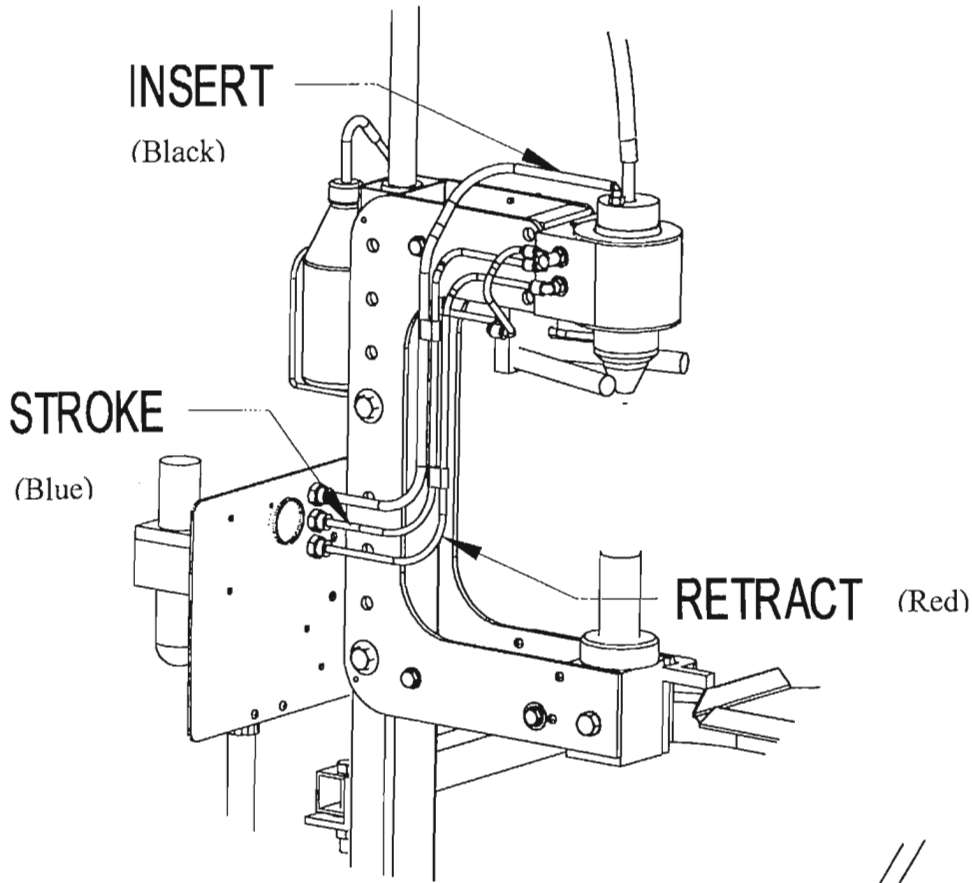

FIGURE 3
1. Attach water bottle holder (9) to back of main post using two 10-24 x 1/2" screws (10).
2. Fill bottle (8) with clean water and place in holder.
3. Attach clear blue tubing to the nozzle of the water bottle. Refer to **Fig. 3**. Page 9.
1. Connect feeder (5) w/optional motor (6) to top of feeder post
2. Connect clear plastic feeder hose (4) from feeder to input tube of SATSIM as per **Fig 3**. Cut to proper length.
5. Step on the foot pedal and keep it pressed down. Adjust the water spray at the flow control. Loosen the lock-nut and adjust counter-clockwise for more spray. **See FIG 3.** Note: To start the flow of water, it may be necessary at first to prime the sprayer by squeezing the bottle and forcing a flow through the tube.